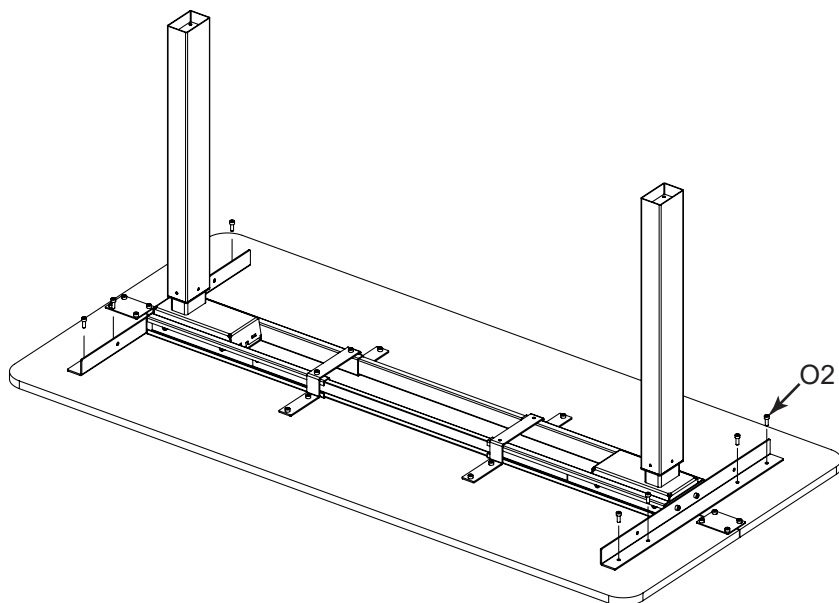

Fig.6
Step 5: Install fixing plates at both sides. (See Fig.6)